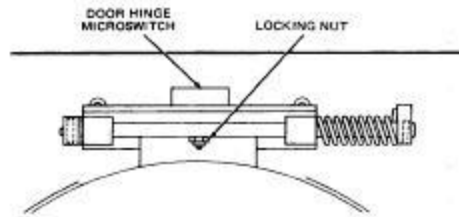

Figure 11-25. Door Hinge Microswitch
5. Remove the locking nut for the door hinge microswitch using a 1/2 inch swivel socket and remove the switch. Figure 11-25.